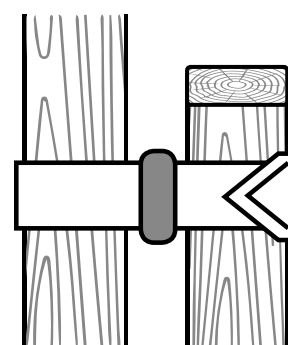

Fig 3
The Tree Tie needs to be positioned 20 mm ($\frac{3}{4}$ inch) below the top of the stake (fig3) so as to prevent the possibility of the tree rubbing against the stake in windy conditions.
4) The Tree Tie can now be positioned on the tree stake and tree around 20 mm ($\frac{3}{4}$ inch) below the top (fig3) of the stake and firmly tightened so as to prevent it slipping or allowing the tree to rub inside the tree tie strap or against the top of the stake. The shape we are making with the tree tie is that of a figure '8' (fig2) with the open buckle side to the ground stake and the closed loop around the tree with the spacing collar between the stake and tree.